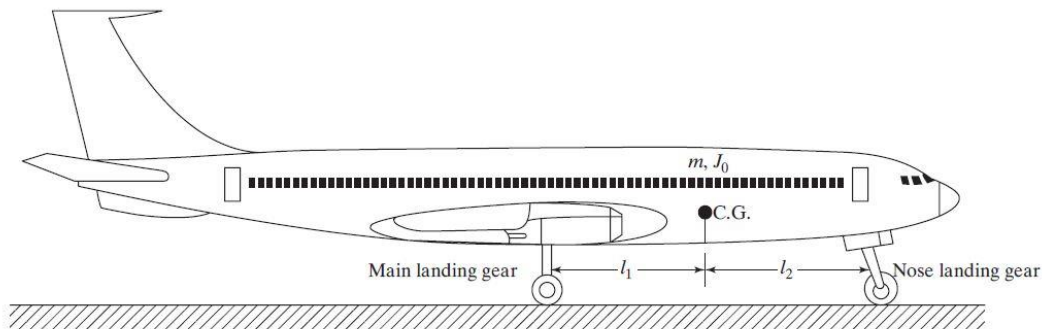

FIGURE 5.37
- 5.33 An airplane standing on a runway is shown in Fig. 5.37. The airplane has a mass $m = 20,000$ kg and a mass moment of inertia $J_0 = 50 \times 10^6$ kg-m². If the values of stiffness and damping constant are $k_1 = 10$ kN/m and $c_1 = 2$ kN-s/m for the main landing gear and $k_2 = 5$ kN/m and $c_2 = 5$ kN-s/m for the nose landing gear, (a) derive the equations of motion of the airplane, and (b) find the undamped natural frequencies of the system.